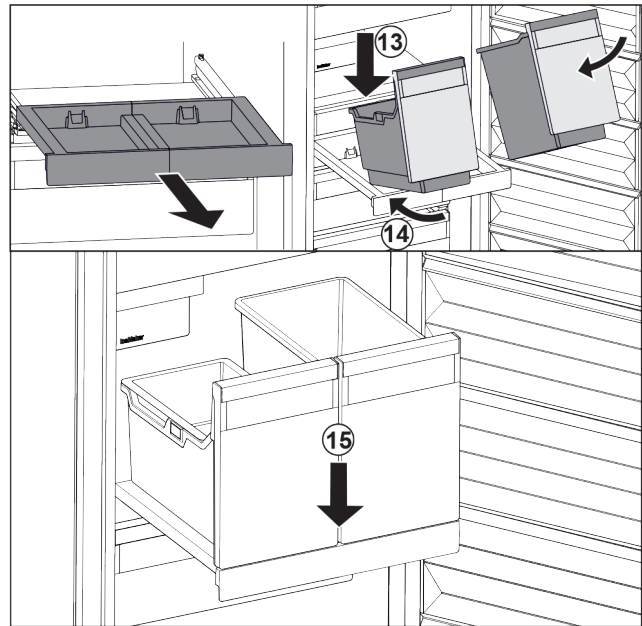

Fig. 39
- ▶ Place the container at an angle on the pull-out board. Fig. 39 (13)
- ▶ Slide the container to the back at an angle. Fig. 39 (14)
- ▶ Place container in the front. Fig. 39 (15)